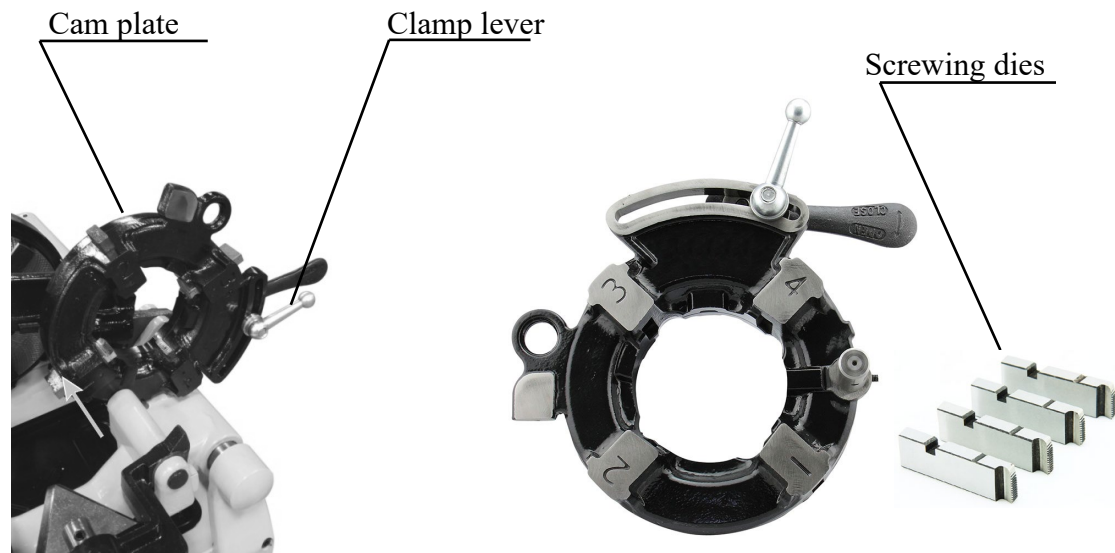

Fig 1
2. Remove the die head from the sledge (Fig.1), loosen the nut of the handle, turn the curve disk around to the maximal position of the scale.